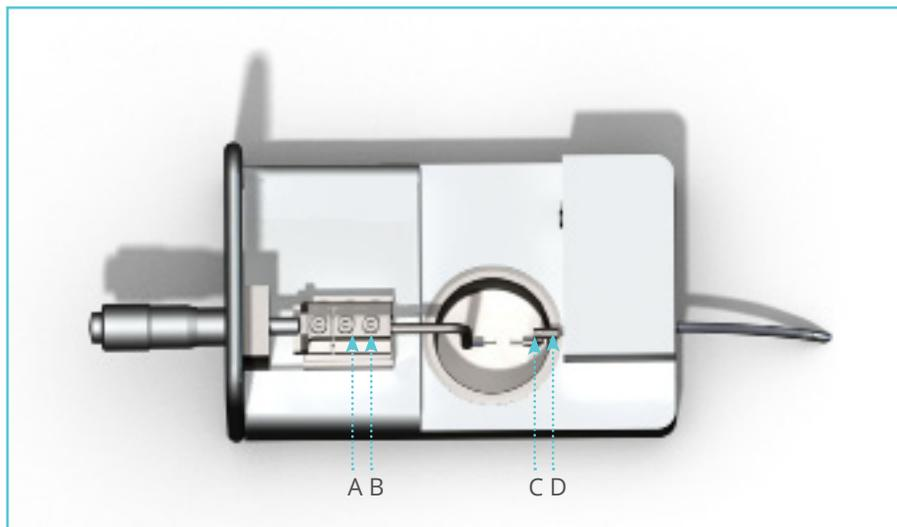

Figure 4.1 Tissue Bath chamber - screws for changing supports and adjustment of the pins
4.1.1 CHANGING THE SUPPORTS (FIGURE 4.1):